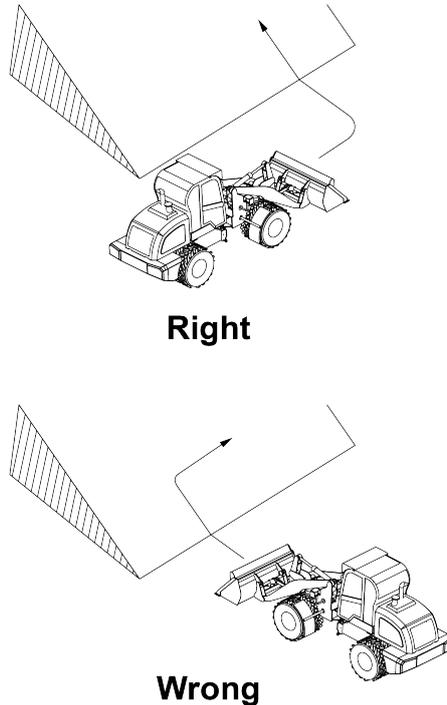

Figure 3.17 Do not turn on ramp
3)Do not turn on ramp, and do not drive laterally or change direction on ramp, otherwise loader may fall over. Drive to a flat place before turning operations, as shown in Figure 3-17.